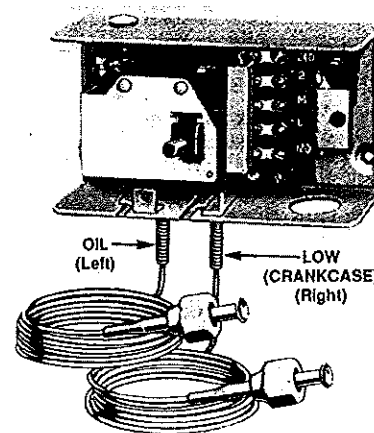

Fig. 1 — A P45 line voltage control with cover removed.
2. Purge all tubing and lines before connecting pressure controls. Connect the oil pressure line to pressure connector labeled "OIL" and the crankcase line to pressure connector labeled "LOW." (See Fig. 1.)